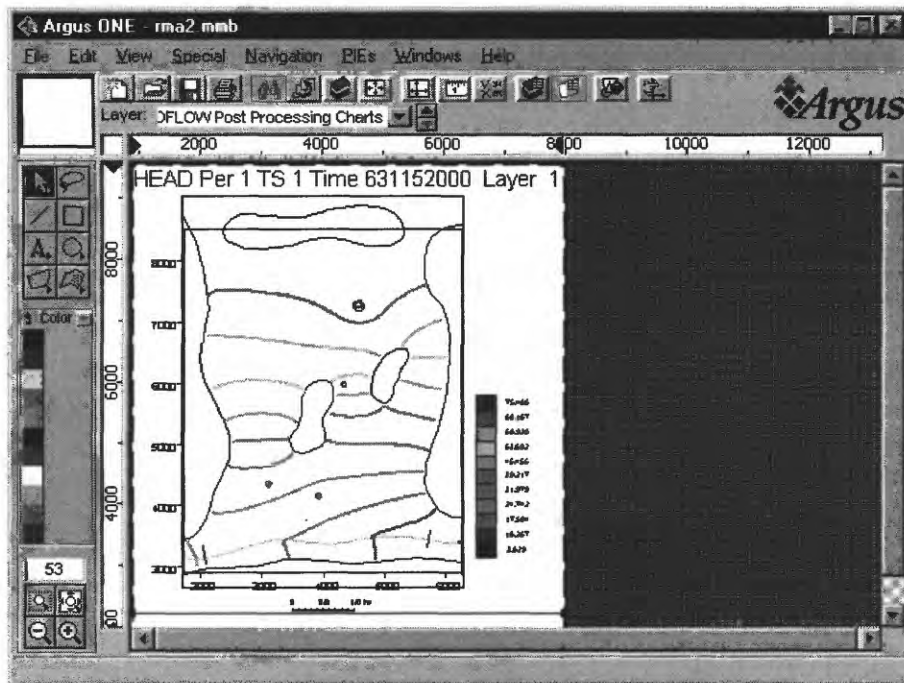

Figure 27. Heads Generated by MODFLOW Simulation.
19. To plot the results of the model, select **PIEs|MODFLOW/MOC3D Post Processing**. Click the **Select Data Set** button and select the file rma2.fhd. Click the **Open** button and then the **OK** button to make a contour plot the head in layer 1 (figure 27).